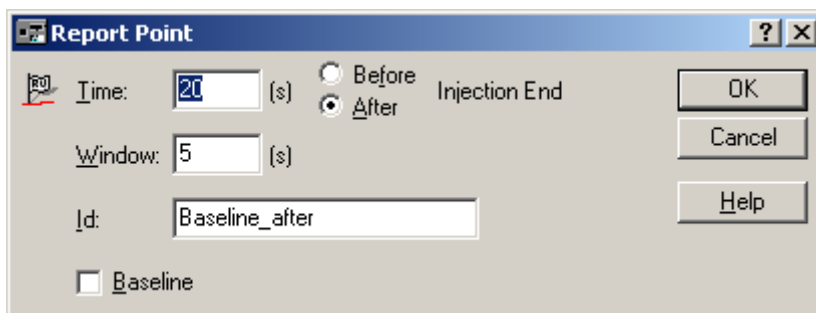

Figure 2.11
- 2.14.2 Report Point window (Fig. 2.11) will open.
- 2.14.3 Type in the information as shown in the Report Point window (Fig 2.11).